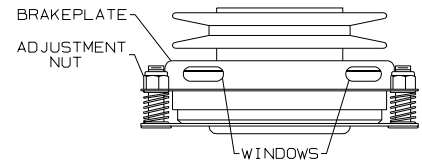

Figure 1
2. Locate the three holes in the brake plate, one near each adjustment nut. (figure 1)